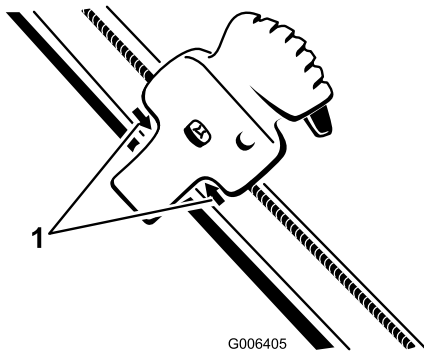

Figure 42
- Position the Quick Shoot control between the 2 arrows located on the right hand side of the upper handle (Figure 42).